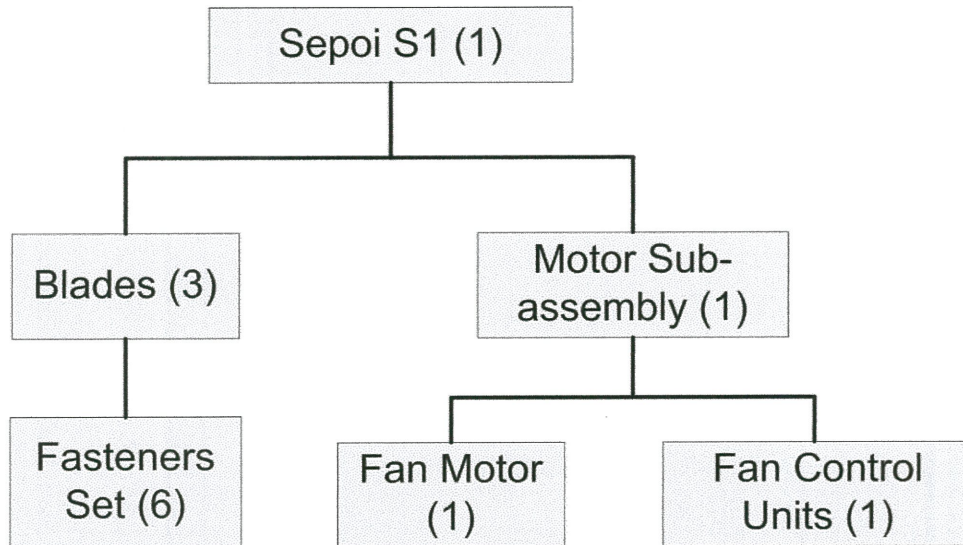

FIGURE Q4(b)
- (b) An electrical appliance company has designed a new ceiling fan called "Sepoi S1" for budget-concerned home users. The product structure is as shown in Figure Q4(b) with numbers of components or subassemblies indicated. Lead time for each component is as shown in Table Q4(b).